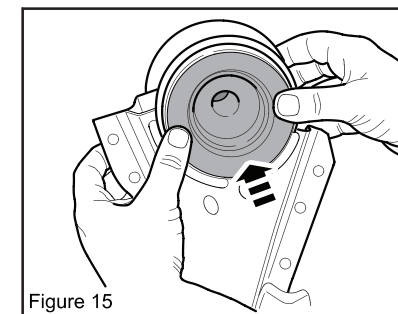

Figure 15
14. Refit the removed OE cup washer and refit (vertical) retaining bolt. (Figure 15).